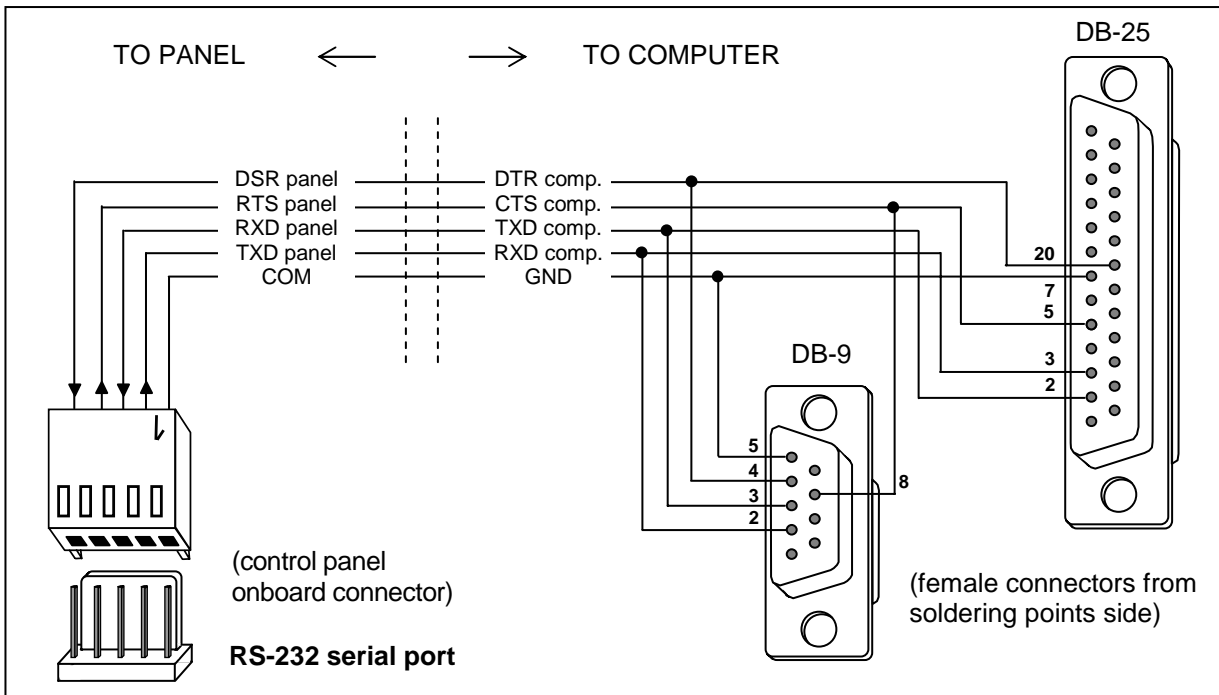

Fig. 1. Connecting computer to control panel serial port.
2. Connect the control panel to the computer as shown in Fig. 1. Use the Com1 or Com2 computer communication port.